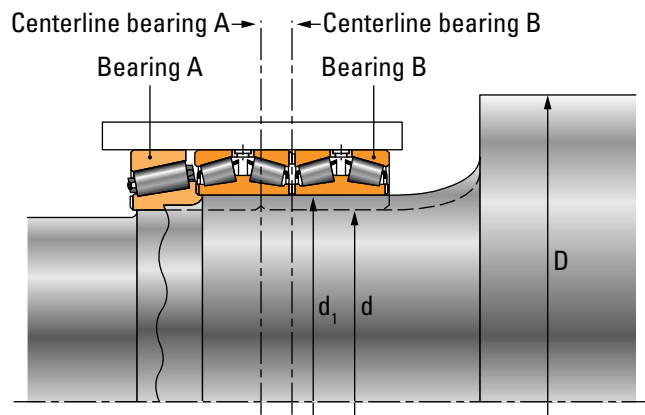

Fig. 91. Optimizing roll neck diameter.
2. Increased neck diameter for extreme high-load applications: In heavily loaded backup rolls, which often run at slow speeds (example: plate mills or roughing stands), a larger neck diameter is needed to cope with the higher bending stress. Based on this need, the conventional heavy-duty bearing size, represented by bearing A (fig. 91), may not be suitable.
For these high-load applications, lighter section bearings are suggested (represented by bearing B in fig. 91) with approximately the same outer diameter as the heavy-duty bearings, but with a larger bore. These lighter bearings offer an increased neck-to-barrel ratio ($d/D \sim 68$ percent) and a smaller bearing width, that reduces the axial distance between the screwdown and the barrel face.